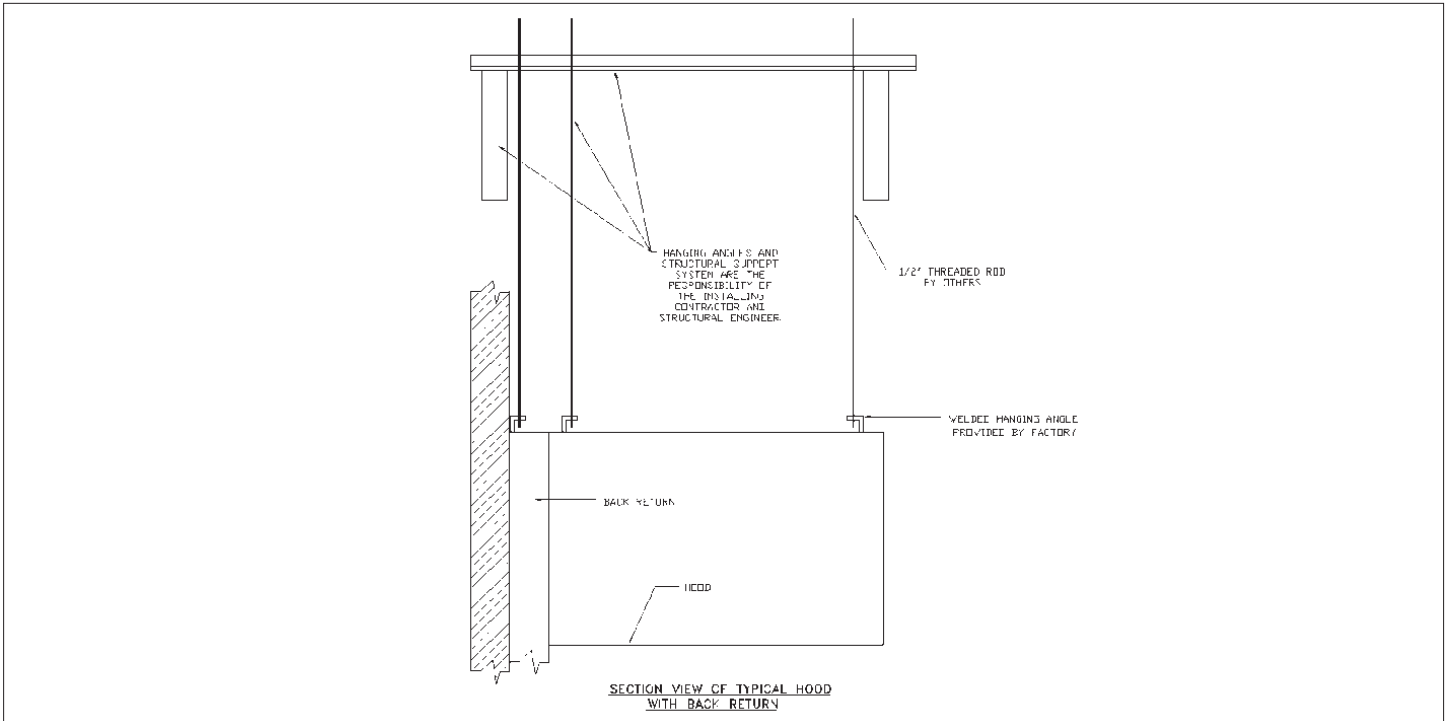

FIGURE 7
5. The back return is typically hung so its top edge is the same height as the top edge of the hood. **See Figure 7.** Refer to Step 2 in the Installation of a Single Hood instructions to determine the hood and back return hanging heights.